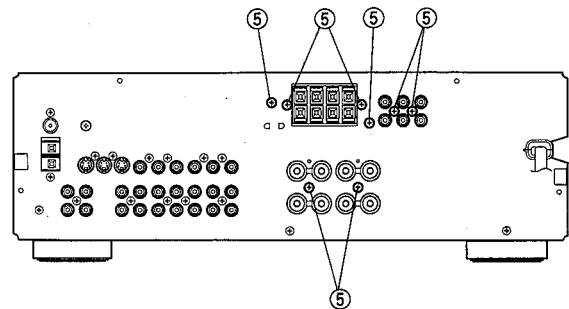

Fig. 2
b. Remove 8 screws (⑤) in Fig. 2.